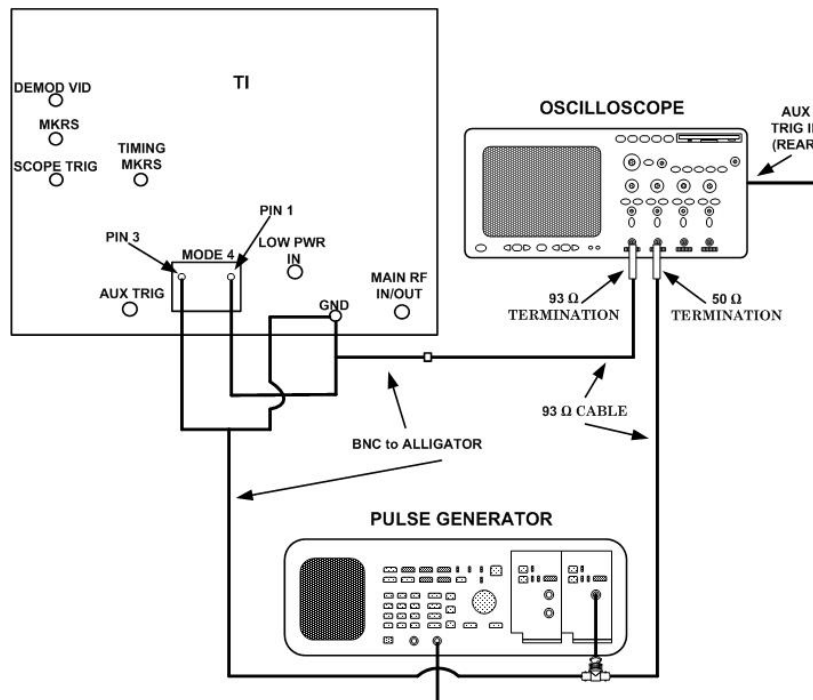

Figure 3. Mode 4 interface input and output - equipment setup.
- (1) Connect equipment as shown in figure 3.
- (2) Set pulse generator for a positive pulse of 1.5 V at 500 Hz and a pulse width of 0.5 μs .
- (3) Set oscilloscope to display **CH1** and **CH2** and measure spacing between leading edges of pulse on **CH2** input and first pulse on **CH1** input. Pulse spacing will be between 195 and 205 μs , if not perform **b** (1) below.